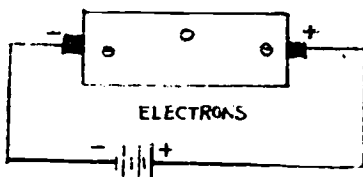

Figure 3
1. On Figures 3 and 4 below, draw arrows to indicate current flow through the circuits.